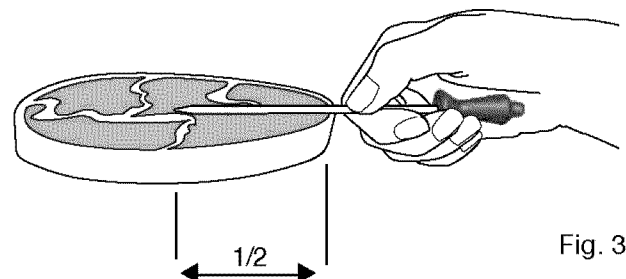

Fig. 3
- For bone-in ham or lamb, insert the probe into the center of the lowest large muscle or joint. For dishes such as meat loaf or casseroles, insert the probe into the center of the food. To find the center of the food visually measure with the probe -Fig. 3. When cooking fish, insert the probe just above the gill.